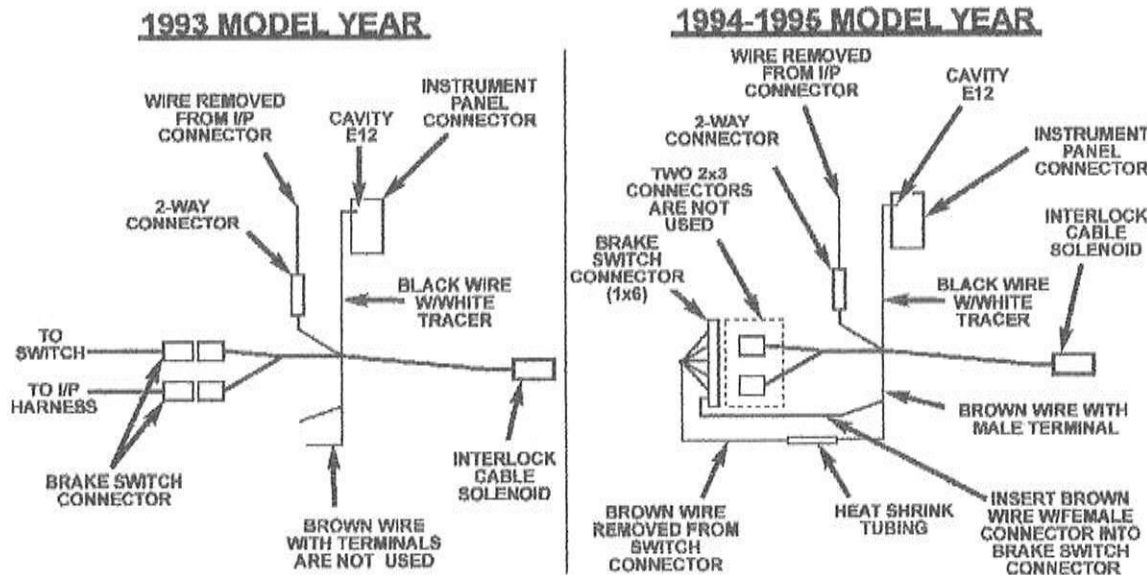

Figure 8
40. Insert the **WHITE w/BLACK** tracer wire removed from the I/P 48-way connector in Step 36 into cavity "A" of the 2-way male connector (Figure 8). Reinsert the locking wedge.
41. Connect the 2-way connector to the mating connector on the supplied wiring harness (Figure 8).
- A. Disconnect the brake pedal switch 6-way (2x3) wiring connector (Figure 8).
- B. Connect the brake switch wiring connectors to their mating halves on the new wiring harness (Figure 8).
- Disconnect the brake pedal 6-way (1x6) wiring connector (Figure 8).
- Remove the **BROWN** wire from the brake switch wiring connector (I/P wiring harness side) (Figure 8).
- Insert the **BROWN** female terminal wire from the supplied wiring harness into the open brake switch wiring connector position (Figure 8).
- Connect the removed brown wire to the **BROWN** male terminal wire on the supplied wiring harness (Figure 8). Slip the heat shrink tubing over the connection and heat with a heat gun until sealant comes out of both ends of the tubing.
45. Connect the wiring harness white 2-way connector to the solenoid on the new shift interlock cable (Figure 8).
46. Secure the new wiring harness to the existing wiring harness with the three (3) remaining tie straps.